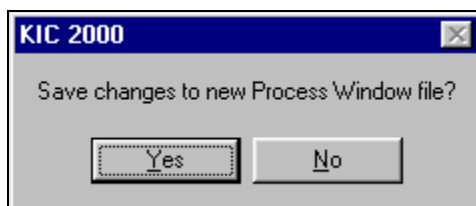

Figure 30
**To save** - Click on the **Green check (Save and Exit)** button. A dialog box will appear asking if you want to save the changes to the *new Process Window file*. See Figure 30.